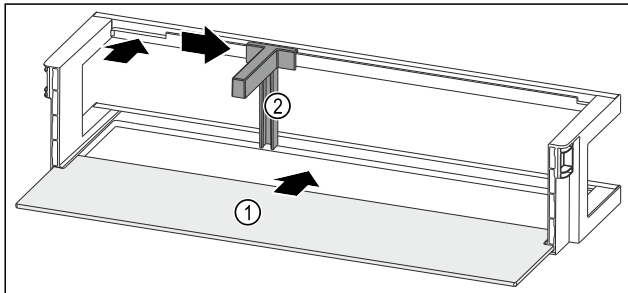

Fig. 174 Door rack with shelf
- ▶ Push the shelf Fig. 174 (1) into the side recesses.
- ▶ Insert the bottle holder Fig. 174 (2) in the recess.
- ▶ Push the bottle holder Fig. 174 (2) to the desired position to the side.